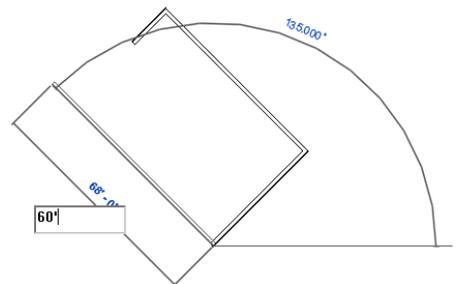

**Figure 3-44** Sketching the second inclined wall segment
5. As the **Chain** check box is selected in the **Options Bar**, the second wall segment will start from the last specified point. Now, move the cursor downward toward the right and right-click to invoke the shortcut menu. Next, choose **Snap Overrides > Perpendicular** from the shortcut menu displayed; the perpendicular snap symbol appears at the end of the wall. Enter **60'** (**18288 mm**), see Figure 3-44; a wall is created perpendicular to the first inclined wall.